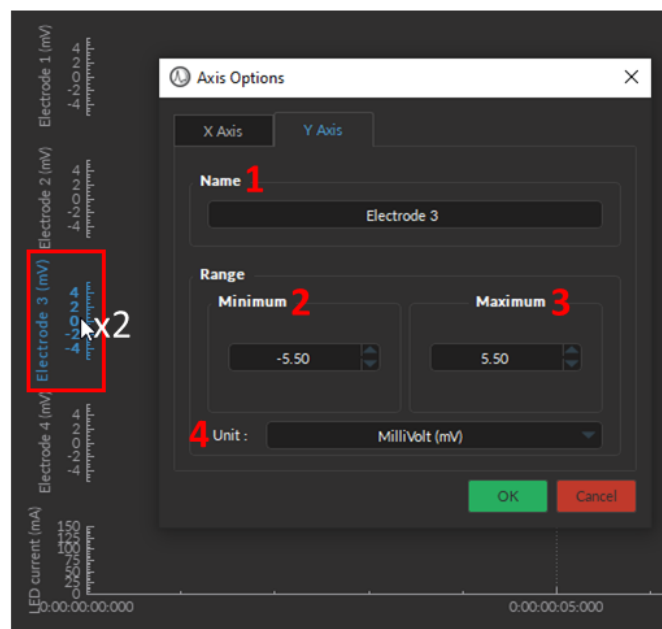

Figure 13.39: Double click on any axis to open its Axis Options window
- **Axis Options** - Each **Graph** (Fig. 13.39) has both a **Voltage** or **State** as the vertical axis and **Time** as the horizontal axis. Double-clicking either axis will open an **Axis Options** window (Fig. 13.39) where the axis limits can be set, similar to the **Zooming Range** in the **View Tab**. Any changes done on a horizontal axis will change the axis limits for every channel.